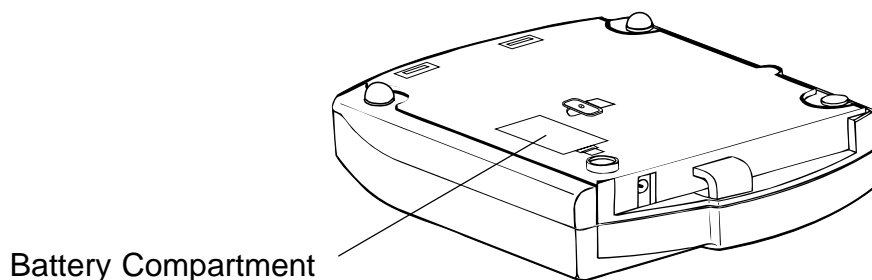

Figure 4-6. Battery Compartment Location.
4. If a battery is being used, turn the balance over and remove the Battery Compartment Cover (3) as shown in Figure 4-6.